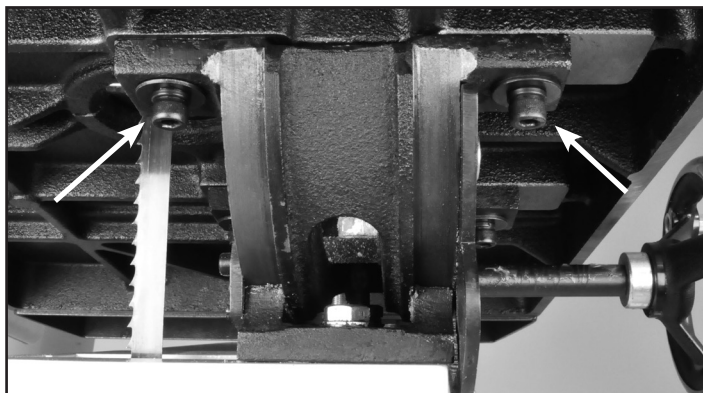
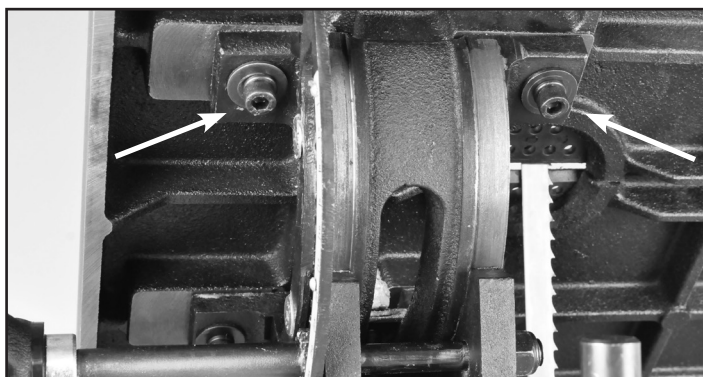

FIGURE 2
FIGURE 3
2. Attach the table to the trunnion with the four Hex Socket Cap Screws, Spring Washers and Washers (Parts #13B, 12B, 11B). Install two bolts to the right of the blade, hand tightened only. Fig. 2. Then tip the table to 45 degrees and install the two bolts to the left of the blade. Fig. 3. DO NOT fully tighten the bolts at this time. Return the table to the horizontal position.